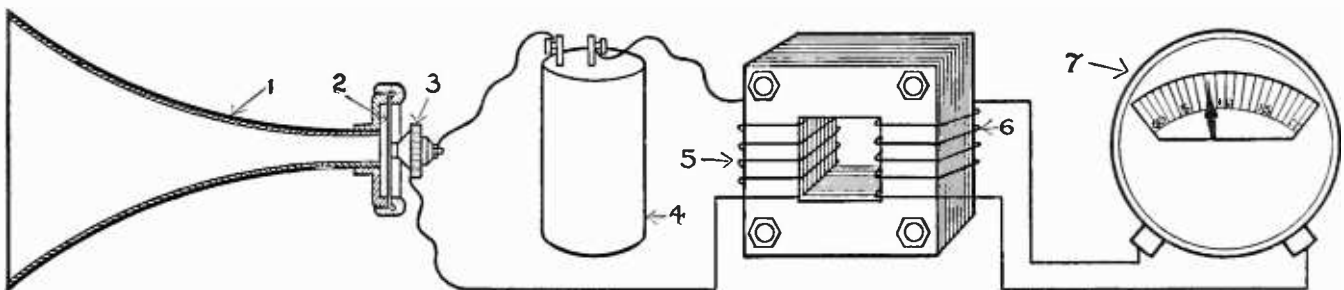

FIG. 1
An apparatus for these purposes would logically take the form shown in Fig. 1 where we have a horn (1) to gather up and concentrate the sound waves at its small end, where they cause a diaphragm (2) to vibrate. On the centre of this diaphragm is placed a carbon microphone (3). This is the device ordinarily used in telephone transmitters and its function is to vary its resistance in unison with vibrations applied to it. We connect this microphone in circuit with a dry battery (4) and the primary winding (5) of a transformer. This transformer may be an audio-frequency transformer taken from a radio set. Now when the current in this primary winding varies, due to the variation in resistance of the microphone, it causes a proportional alternating current to flow in the secondary winding (6) and we measure this alternating current with the meter (7). Then we have a complete instrument for detecting the presence of a sound falling on the diaphragm and for measuring its loudness on the scale of the meter.